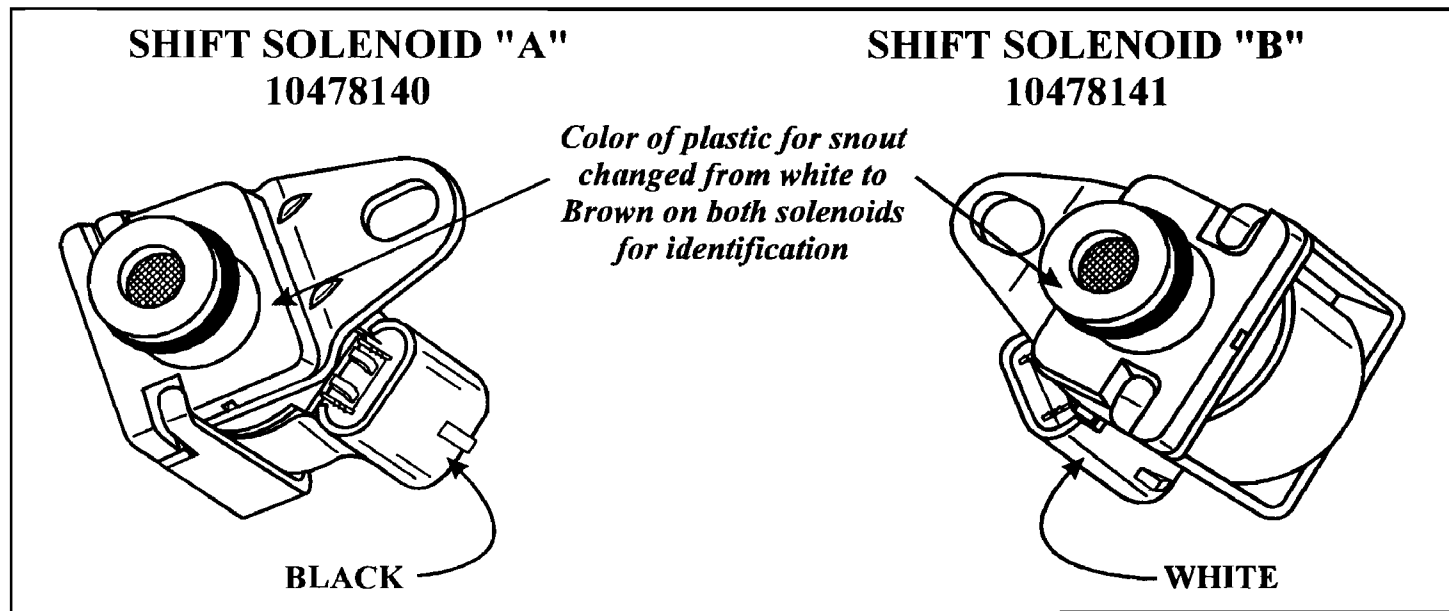

Figure 1
- (1) SHIFT SOLENOID "A" - Revised plastic material in the seat area, and connector is still Black in color, but color of plastic for snout where the "O" ring goes changed to Brown instead of the previous White, for identification purposes (See Figure 1).
- (2) SHIFT SOLENOID "B" - Revised plastic material in the seat area, and connector is still White in color, but color of plastic for snout where the "O" ring goes changed to Brown instead of the previous White, for identification purposes (See Figure 1).
CHANGE: Beginning at the start of production for all 1997 models, a new design centralized lubrication system was implemented, with changes that will affect service parts and normal disassembly procedures. Refer to Figures 1, 2, and 3. The new centralized lube distribution system is divided into three independent systems; front, center and rear.